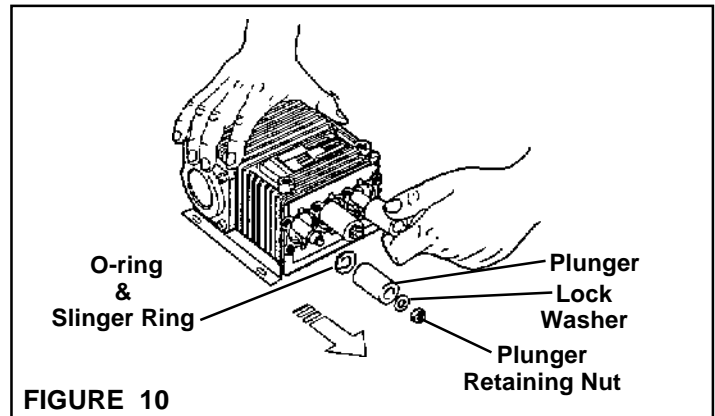

FIGURE 10
3. Remove the Plunger Retaining Nut and the Plunger Retaining Nut Washer; then, carefully slide the Plunger off the Lower Plunger (See Figure 10).
4. Remove and discard the old O-ring and Slinger Ring from the Lower Plunger (See Figure 10).